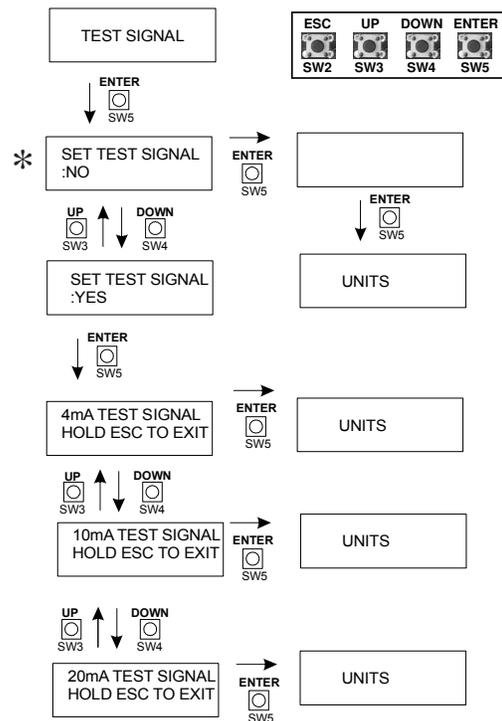

Figure 15: Test Signal Submenu
- Figure 15 UNIT SYSTEM, VELOCITY UNIT